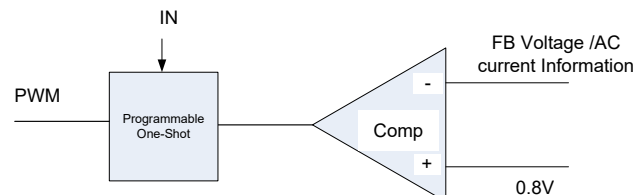

Figure 2. Simplified Control Schematic of AOZ2260AQI-18
The simplified control schematic is shown in Figure 2. The high-side switch on-time is determined solely by a one-shot whose pulse width can be programmed by one external resistor and is inversely proportional to input voltage (IN). The one-shot is triggered when the internal 0.8V is higher than the combined information of FB voltage and the AC current information of inductor, which is processed and obtained through the sensed lower-side MOSFET current once it turns-on. The added AC current information can help the stability of constant-on time control even with pure ceramic output capacitors, which have very low ESR. The AC current information has no DC offset, which does not cause offset with output load change, which is fundamentally different from other V^2 constant-on time control schemes.